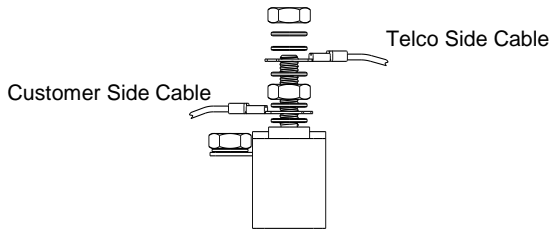

Figure 2
- a) Connect the drop wire to the Tip and Ring of the protector module, placing the wire under the bottom nut on each stud for station protector module (See Figure 2).